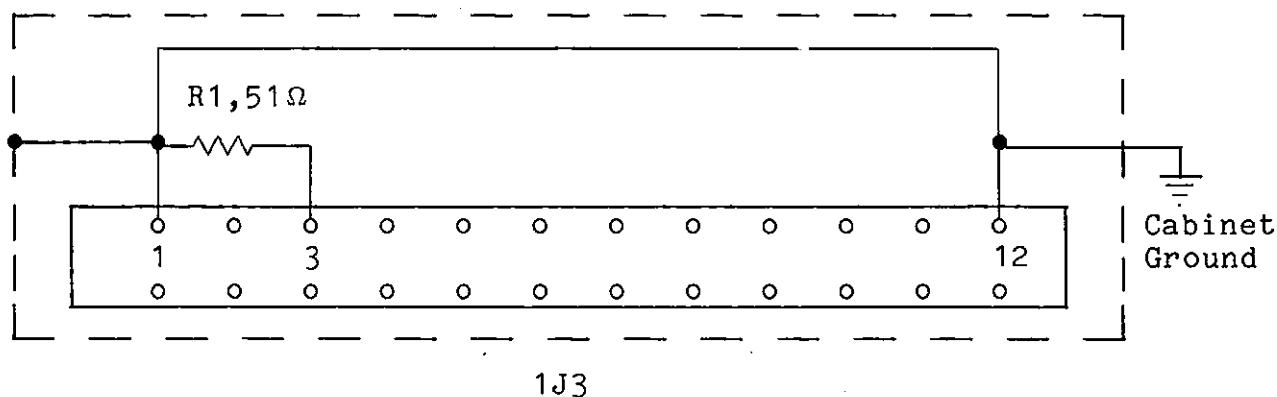

Figure 2.40. EPA Dummy Load Internal Wiring
(1) Unplug AC power cord.
(2) Disconnect all cables.
(3) Reconnect W0678-8/PA Interconnect cable to dummy load (see Figure 2.40 for dummy load internal wiring).
(4) Remove from equipment cabinet.